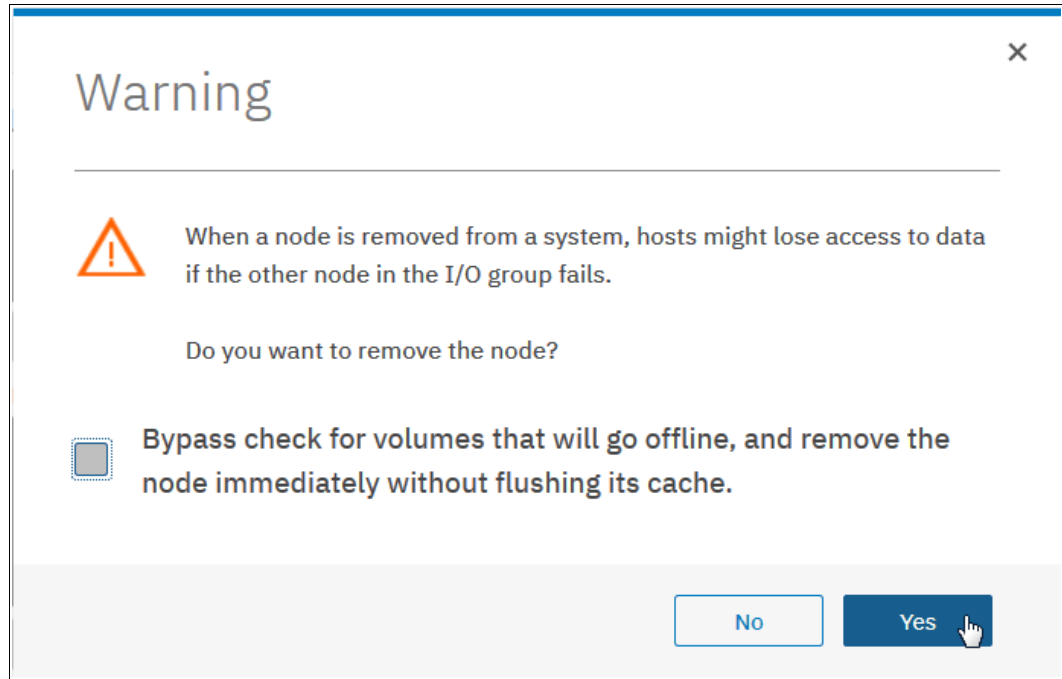

Figure 12-54 Node removal confirmation window
- A warning message appears in which you are prompted whether you want to remove the node, as shown in Figure 12-54. Click **Yes**.